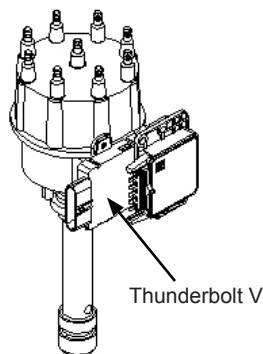
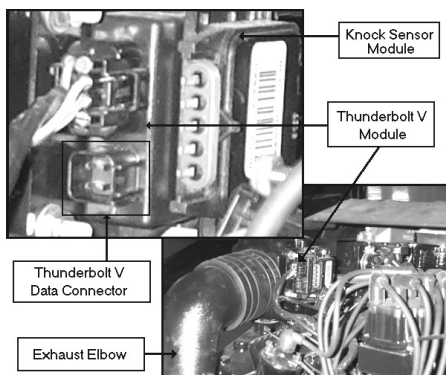

Figure 28
Figure 29
The 1st and 2nd generation Thunderbolt V modules are mounted on a bracket that is attached to the engine's distributor as shown in Figure 28. On some MerCruiser engines a Knock Sensor (KS) module is also mounted on the same bracket. The 3rd generation Thunderbolt V modules are mounted on the engine's exhaust elbow and may also have a Knock Sensor module mounted above it (see Figure 29).